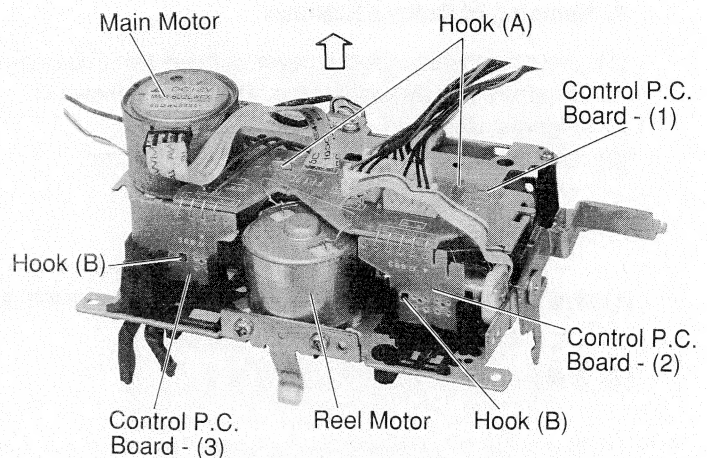

Figure 14
- (1) Remove three hooks (A) as shown in Figure 14 and 15.
- (2) Disconnect all wires from the control P.C.Board - (1).
- (1) After removal of the control P.C.Board - (1) to (3), remove the main motor bracket by removing three screws marked "O" as shown in Figure 14.